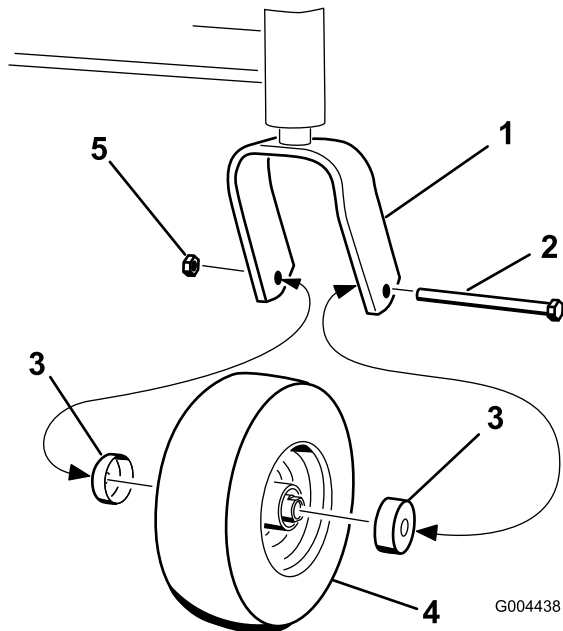

Figure 28
4. Remove then nut and bolt holding the caster wheel to the front caster fork (Figure 28).
5. Remove the seal guard from the wheel hub (Figure 28).
- Install the seal guards over the wheel hubs and insert the wheel into the caster fork (Figure 28).
- Install the caster bolt and tighten the nut (Figure 28).